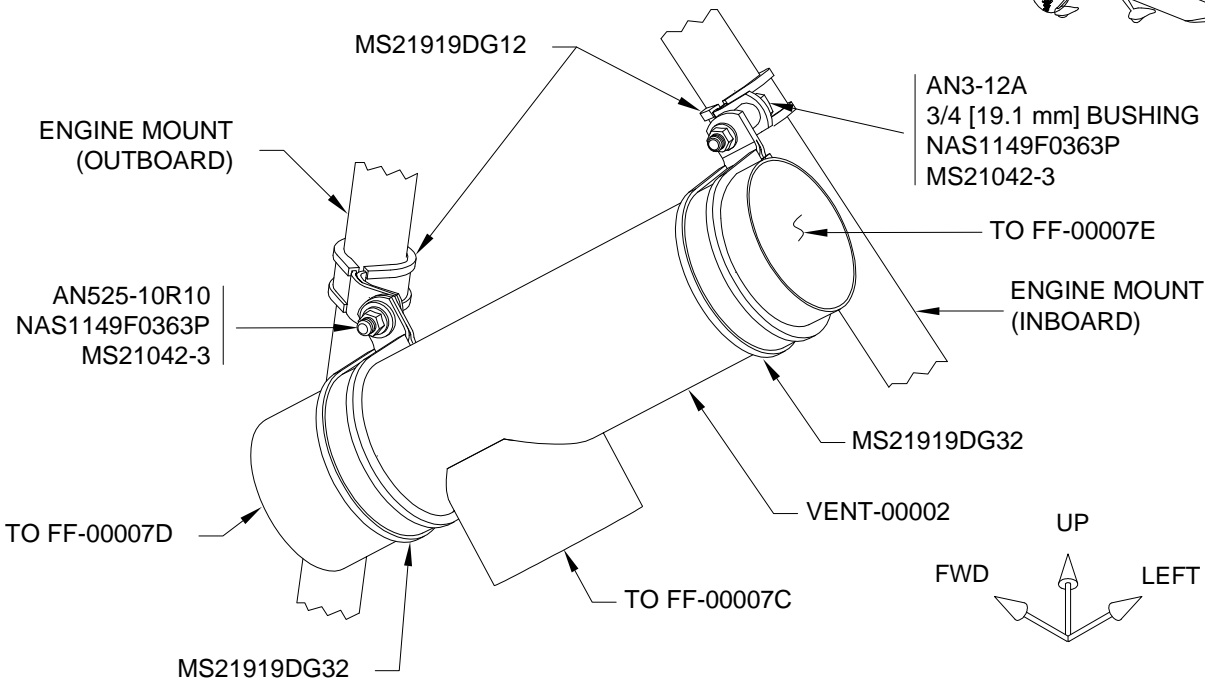

FIGURE 2: TEE INSTALLATION
Step 6: Install the VENT-00002 2" Duct Tee and clamps as shown in Figure 2. See Figure 3 and Figure 4 for additional detail. Use safety wire to secure the smaller clamps to aid in installation.